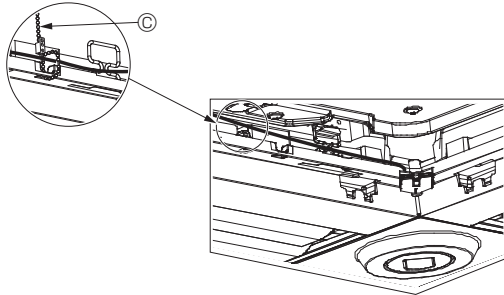

Fig. 6-13
- Secure the i-See sensor and signal receiver wires to the panel with the fastener as shown in the diagram so that there is no slack in the wires, and then cut off the excess end of the fastener. (Fig. 6-13)
- If the position of the i-See sensor was changed from the "o" position (E) to the "□" position (F), change the switch settings. (Refer to page 11.)